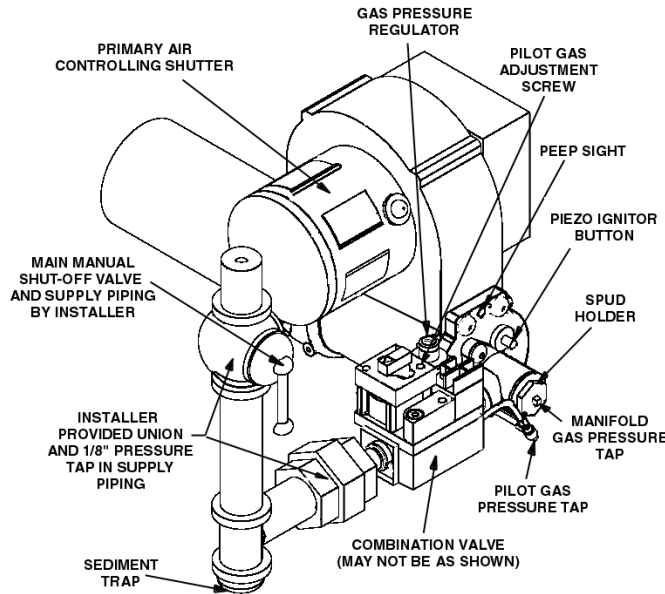

Figure 6: Piping Connections
**CAUTION:** The available gas pressure should be within the limits shown in the SPECIFICATIONS section. Excessive pressure will damage Combination Valve and Regulator. If the supply pressure exceeds the 14.0" W.C. maximum, a suitable intermediate main regulator must be installed ahead of the Main Manual Shut-Off Valve shown in Figure 6.
- Provide a sediment trap, union and 1/8" pressure tap in piping close to burner as shown in Fig 6.
- If the burner piping must be rearranged because of space limitations, be sure to carry out the general arrangement shown in Figure 6. Install the Combination Valve in any position except up-side down.
□ TO CHANGE SPUD: Turn Manual Gas Cock Knob on Combination Valve to **OFF**. Remove the Spud Holder. See Table 3, and Figure 6 or 7.
6. Turn Manual Gas Cock Knob on Combination Valve to PILOT and depress knob, or red button if so equipped. Hold firm and light pilot by depressing piezo ignitor button several times. Pilot should light. Pilot may be viewed through Peep Sight located in Back Plate (See Figure 6). Failure to light is probably due to air in pilot gas line. Attempt several relights. Then, if necessary, refer to Trouble Chart or Section IX to isolate the problem.
**Note:** Pressure setting can only be made with burner running and gas on. Manifold gas pressure tap is located in spud holder (See Figure 6 or 7).